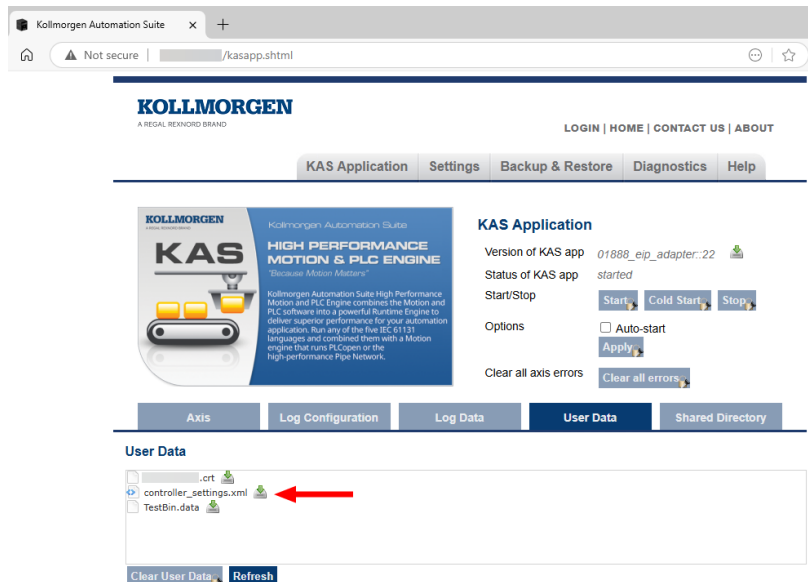

Figure 4-6: controller_settings.xml file
- Locate the **controller_settings.xml** file and click the Download (📄) icon next to it. (Figure 4-6)